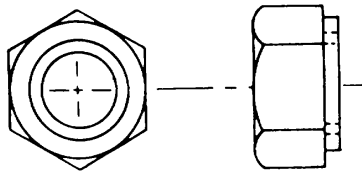

Figure 2-28. Airframe Plain Nut
*j. Airframe Plain Nuts.* Use airframe plain nuts AN315, as shown in figure 2-28, in structural application. An auxiliary locking device, such as a checknut, or a lockwasher, is required when this type nut is used.